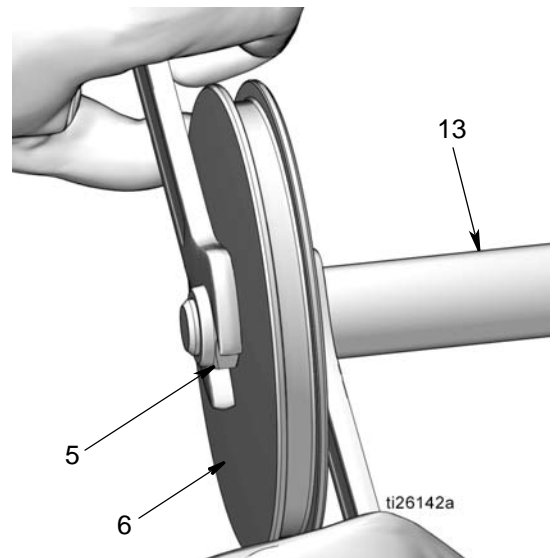

FIG. 49
- Install nut (5) over the end of the piston rod (13). Use two wrenches, working in opposite directions to tighten the nut. Secure one open end wrench to flats of piston rod and use the second wrench to tighten the nut (5) as shown in FIG. 49.